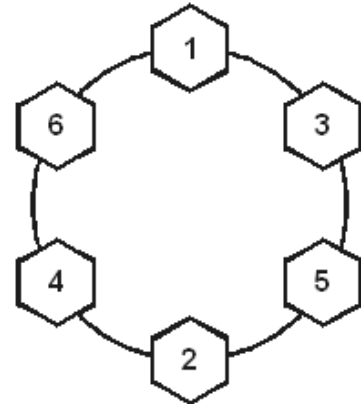

Figure 4-4. Wheel Nut Tightening Sequence
- Check for correct wheel nut tightening sequence. Refer to Figure 4-4.